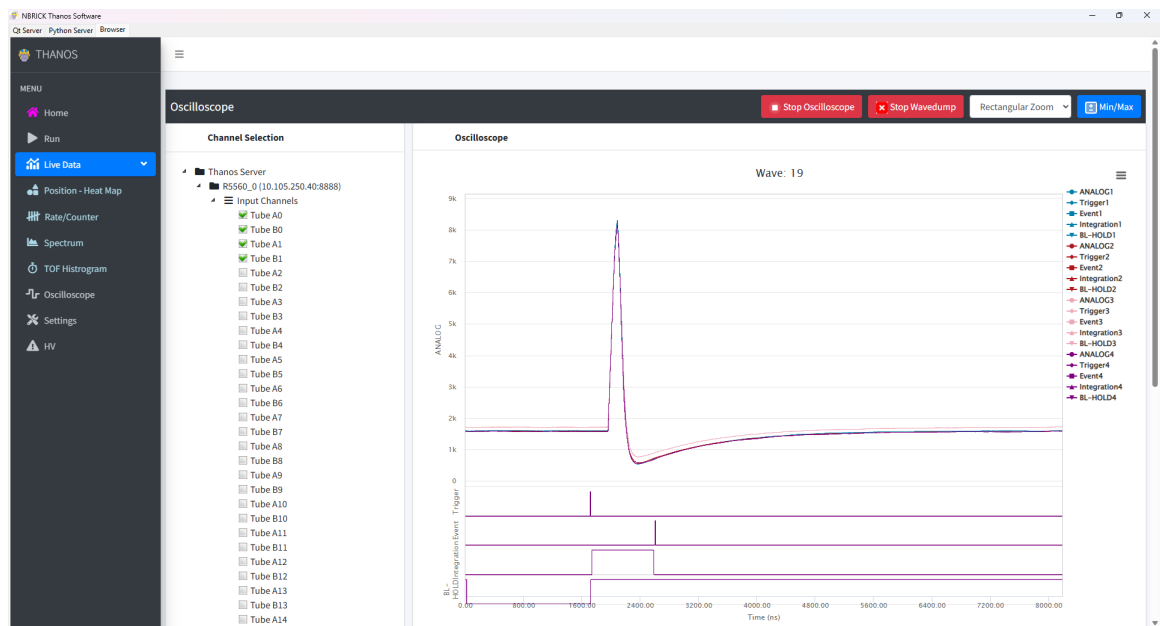

Fig. 4.59: Thanos Oscilloscope Wavedump example.
- **Start Wavedump:** starts counting and saving waveforms acquired from the enabled channels (Fig. 4.59 shows an example where the waveforms are being counted). When the acquisition is stopped, a file named "oscilloscope\_0\_0.nWaveDump.csv" is automatically saved, where "n" represents the total number of counted waves for each enabled channel. The data file is structured as following: